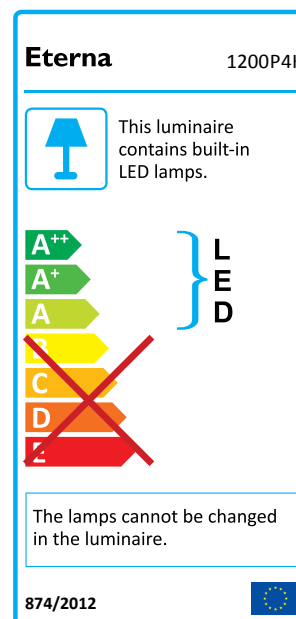

FIG 1 - Ceiling Insert Of The Panel Light
- 4) Install the fitting into position within the suspended ceiling, laying the unit to rest on the T-bar section (See Fig 1. for instructions).